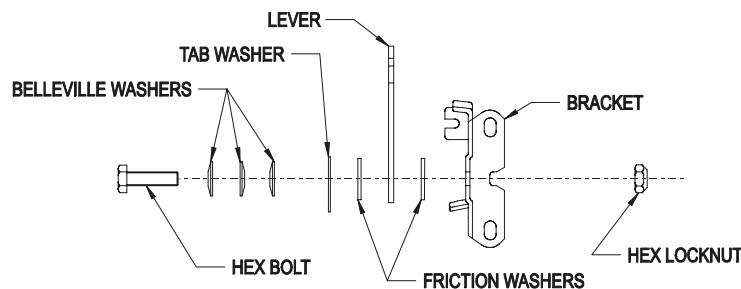

FIGURE 9
- Tension in throttle lever can be adjusted by adjusting the tightness of the lever pivot bolt, which is located under the console. See Figure 9.